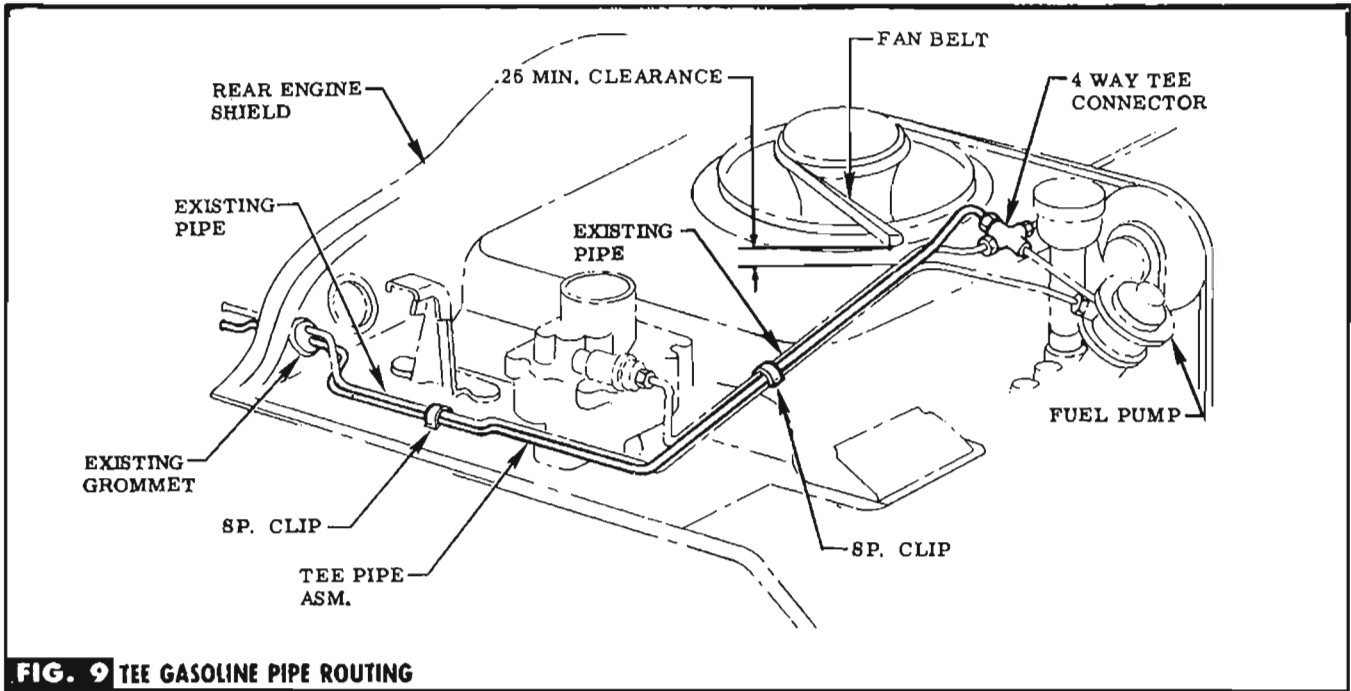

FIG. 9 TEE GASOLINE PIPE ROUTING
STEP 43 REMOVE & DISCARD 3 WAY TEE CONNECTOR & REPLACE WITH 4 WAY CONNECTOR PROVIDED (IN BAG C). SEE FIG. 9.
STEP 44 CONNECT TEE PIPE TO 4 WAY CONNECTOR. ROUTE ALONG SIDE EXISTING FUEL LINE & THRU GROMMET IN REAR ENGINE SHIELD. SECURE WITH CLIPS PROVIDED (IN BAG C). SEE FIG. 9. **NOTE** Proper clearance